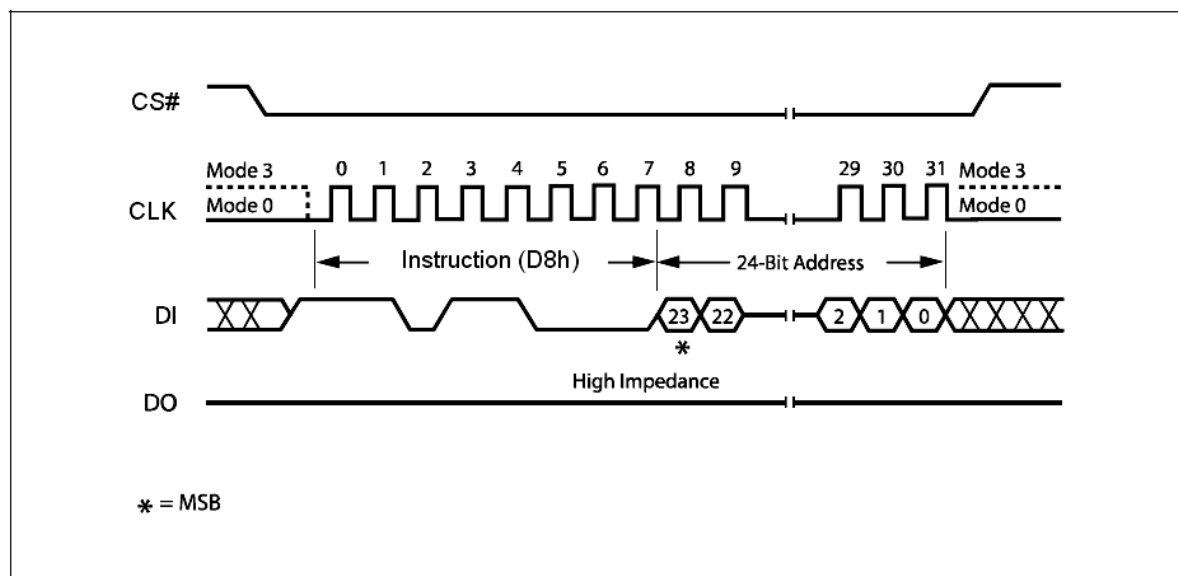

Figure 16 Block Erase Instruction Sequence Diagram
The instruction sequence is shown in Figure 16. Chip Select (CS#) must be driven High after the eighth bit of the last address byte has been latched in, otherwise the Block Erase (BE) instruction is not executed. As soon as Chip Select (CS#) is driven High, the self-timed Block Erase cycle (whose duration is t_{BE}) is initiated. While the Block Erase cycle is in progress, the Status Register may be read to check the value of the Write In Progress (WIP) bit. The Write In Progress (WIP) bit is 1 during the self-timed Block Erase cycle, and is 0 when it is completed. At some unspecified time before the cycle is completed, the Write Enable Latch (WEL) bit is reset.